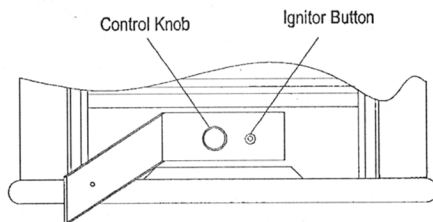

Figure 12 - Control Knob and Ignitor Button location
- Wait five (5) minutes to clear out any gas. Then smell for gas, including near the floor. If you smell gas, **STOP!** Follow "B" in the safety information on page 2. If you don't smell gas, go to the next step.
- Turn control knob counterclockwise ↻ to the PILOT position. Press in control knob for five seconds (see Figure 12).